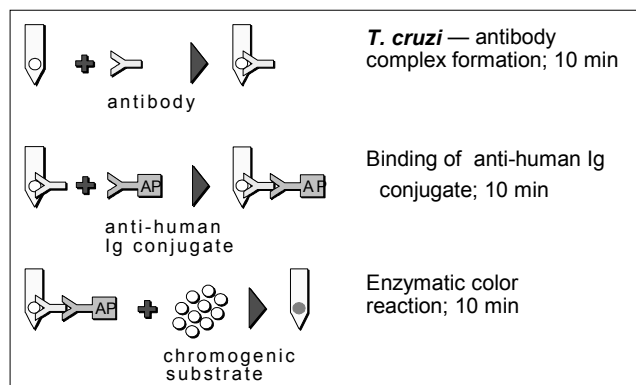

Figure 1. Principle of the Test
To start the test, serum or plasma specimens are added to the diluent in the wells of row A of the Developing Plate. The Card is then inserted in the wells of row A. Anti-*T. cruzi* antibodies, if present in the specimens, will specifically bind to the recombinant proteins on the lower spots on the teeth of the Card (Figure 1). Simultaneously, immunoglobulins present in the specimens will be captured by the anti-human immunoglobulin antibodies on the upper spot (Internal Control). Unbound components are washed away in row B. In row C, the specific immunoglobulins captured on the teeth will react with anti-human polyvalent Ig antibodies labeled with alkaline phosphatase (AP). In the next two rows, unbound components are removed by washing. In row F, the bound alkaline phosphatase will react with chromogenic components. The results are visible as gray-blue spots on the surface of the teeth of the Card.